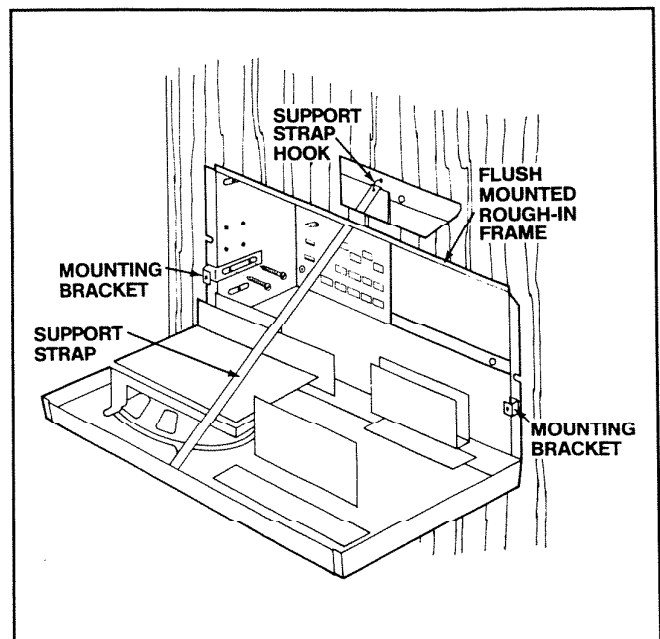

FIGURE 12
1. Use two No. 6 x 3/8" screws to attach mounting brackets to rough-in frame. **Using bottom set of holes, make sure brackets are flush to wall or rough-in. See Figure 12.**
5. Attach support strap to rough-in by placing hook into hole in rear flange of rough-in frame. See Figure 12.